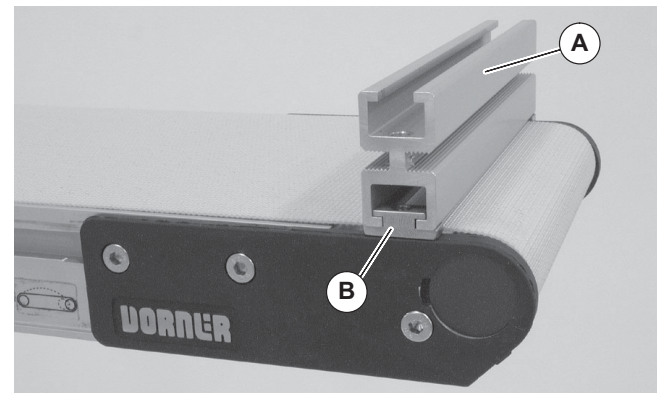

Figure 2
2. Insert spacer (Figure 2, item B) in both ends of end stop (A).